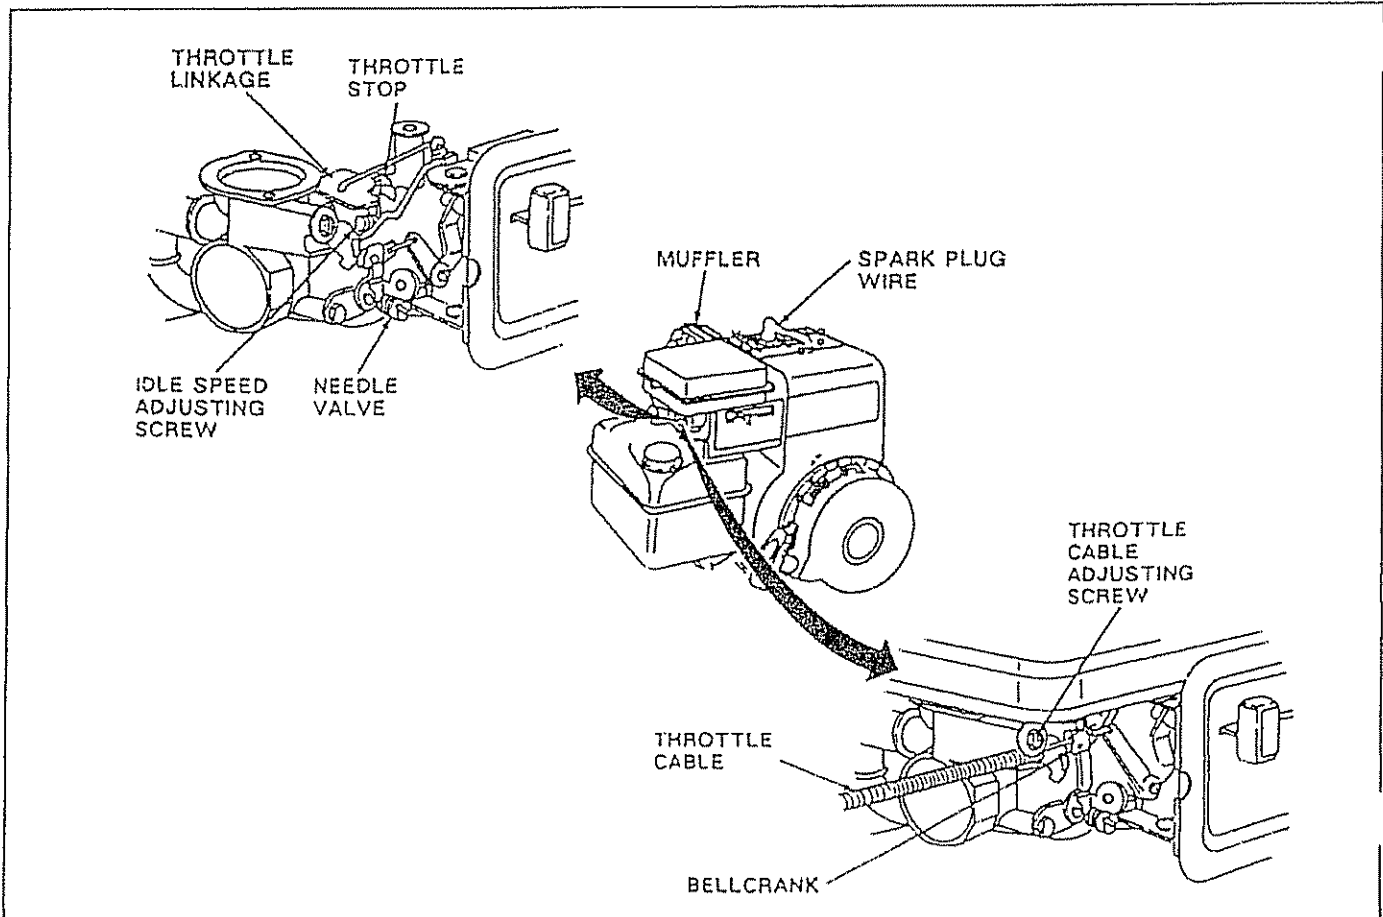

FIGURE 26
- Turn Needle Valve (Fig. 26) clockwise (↻) until it just closes. Valve may be damaged by turning Needle Valve in too far.